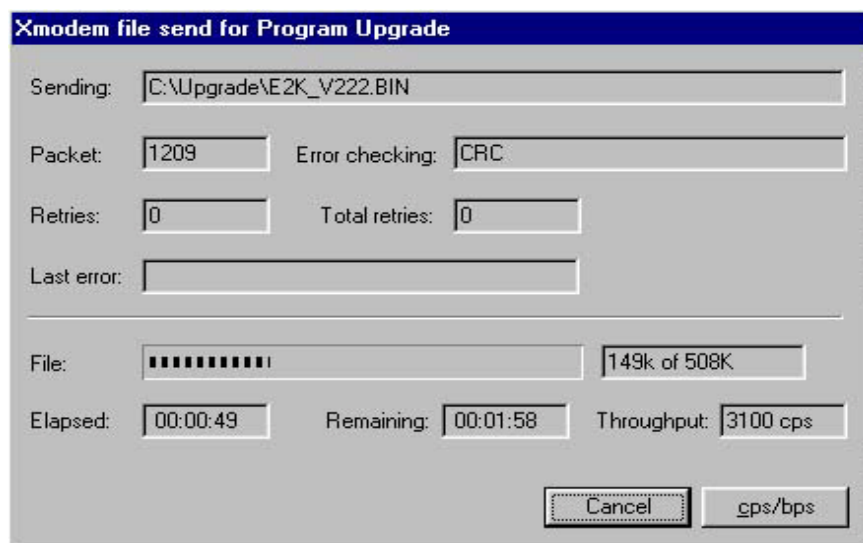

Fig. 10
12. You can see the state of data transfer in the Xmodem file send for program Upgrade window. It takes about 3 minutes to finish the process.(Fig. 10)